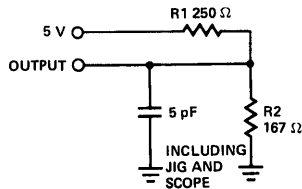

Figure 1b
3. Transition is measured at steady state HIGH level - 500 mV or steady state LOW level + 500 mV on the output from the 1.5V level on the input with loads shown in Figure 1b.
6. See Figure 1b for t_{HZ}.
5. Transition is measured at steady state HIGH level -500 mV or steady state LOW level $+500 \text{ mV}$ on the output from the 1.5V level on inputs with load shown in Figure 1b.